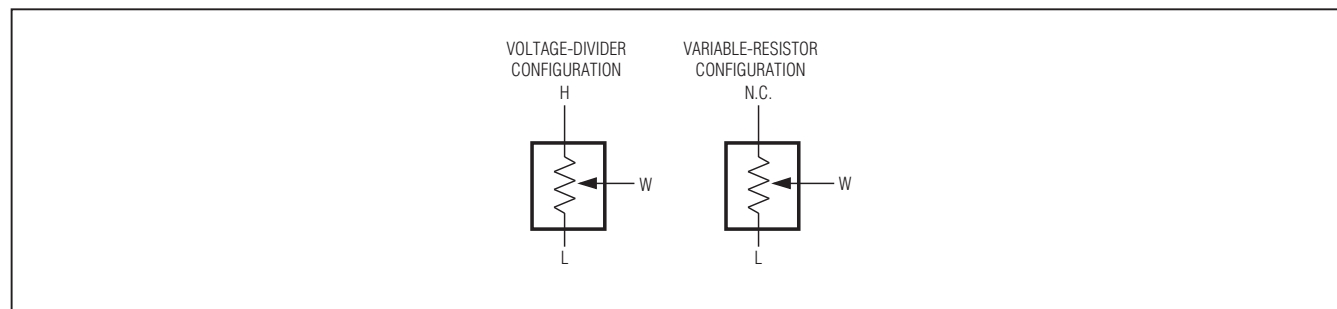

Figure 1. Voltage-Divider/Variable-Resistor Configurations
**Note 2:** DNL and INL are measured with the potentiometer configured as a voltage-divider (Figure 1) with  $H = V_{DD}$  and  $L = GND$ . The wiper terminal is unloaded and measured with an ideal voltmeter.
**Note 3:** R-DNL and R-INL are measured with the potentiometer configured as a variable resistor (Figure 1). DNL and INL are measured with the potentiometer configured as a variable resistor.  $H_{-}$  is unconnected and  $L_{-} = GND$ . For  $V_{DD} = +5V$ , the wiper terminal is driven with a source current of 400 $\mu A$  for the 10k $\Omega$  configuration, 80 $\mu A$  for the 50k $\Omega$  configuration, and 40 $\mu A$  for the 100k $\Omega$  configuration. For  $V_{DD} = +2.6V$ , the wiper terminal is driven with a source current of 200 $\mu A$  for the 10k $\Omega$  configuration, 40 $\mu A$  for the 50k $\Omega$  configuration, and 20 $\mu A$  for the 100k $\Omega$  configuration.
| 1                  | 11/09            | Released MAX5386LATE+ and MAX5386NATE+ in Ordering Information ; corrected specifications for Full-Scale Error, Zero-Scale Error, and Integral Nonlinearity in Electrical Characteristics ; added I.C. row to Pin Description ; corrected Figure 1 | 1, 2, 7          |